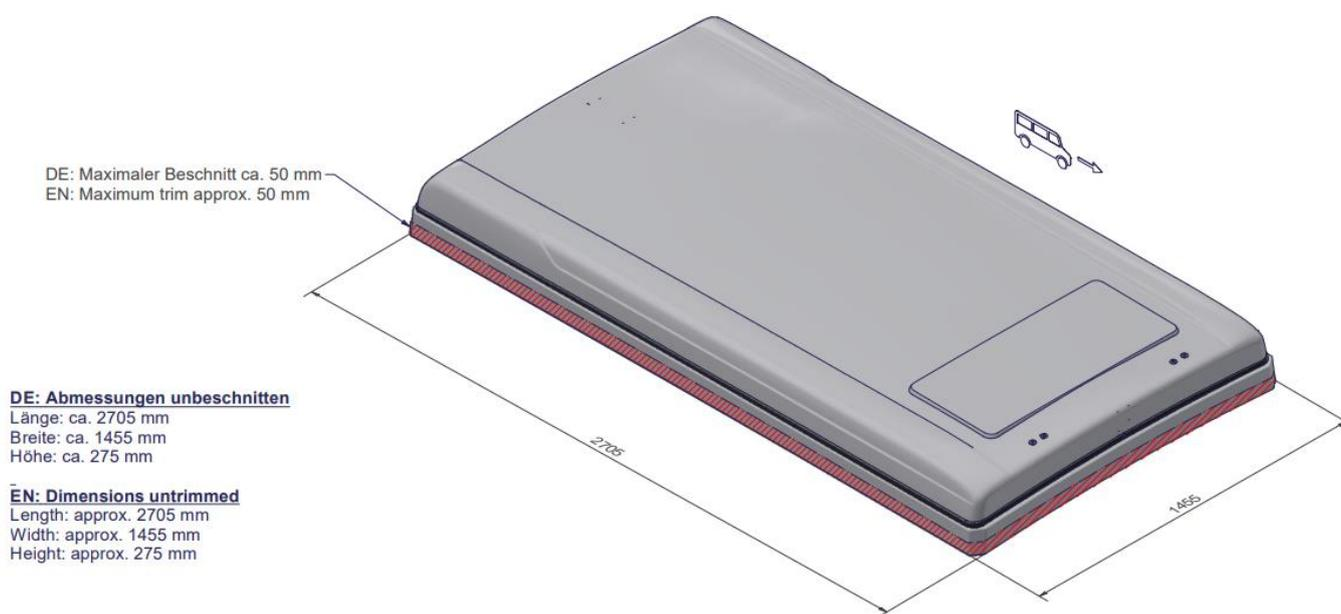

Abb. 3-2: Universal roof Maxivan [G0001550]
- You have about 50 mm (red marking, see Abb. 3-2) they can remove on the frame and spoiler to fit the roof structure.